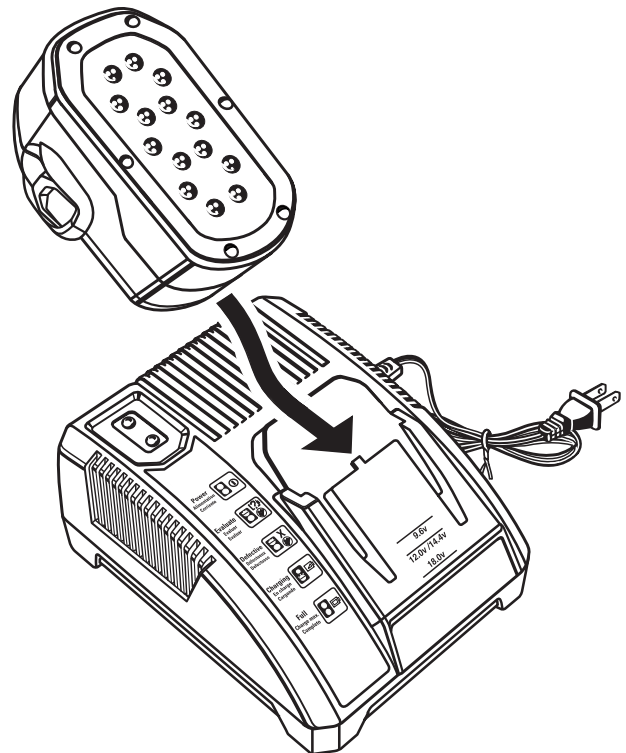

Fig. 7
- Attach the battery pack to the charger by aligning the raised ribs on the battery pack with the grooves in the charger, then slide the battery pack onto the charger. See *Figure 7*.